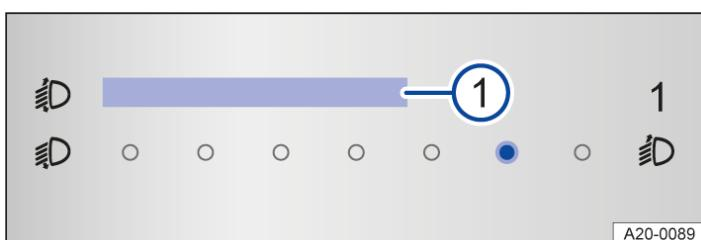

Fig. 1 In the Infotainment system: touch slider for headlight range control.
Depending on the vehicle equipment, the headlight range can be adjusted in the Infotainment system → *Fig. 1*.
2. Tap the **Headlights** function button to open the menu option **Headlight range control** → *Fig. 1* 1.